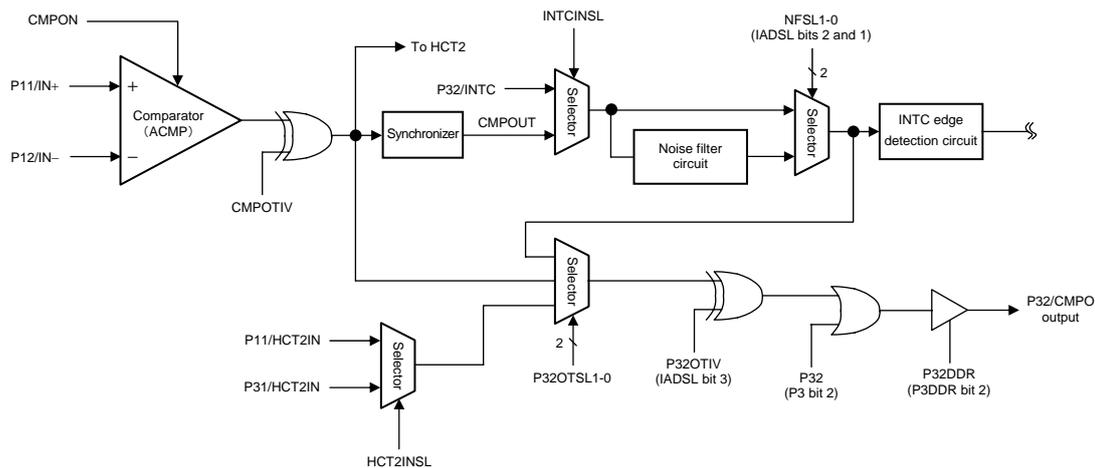

Figure 3.10.1 Analog Comparator and P32/CMPO Multiplexed Pin Output Block Diagram
- * When P32OTSL1/0 = 0/0, the output of the selector designated by these bits is fixed at a low level (see Figure 3.10.1 for details).
- * To control the P32/CMPO multiplexed pin output, it is also necessary to configure P32OTIV (IADSL, bit 3), P32 (P3, bit 2), and P32DDR (P3DDR, bit 2) (see Figure 3.10.1 for details).